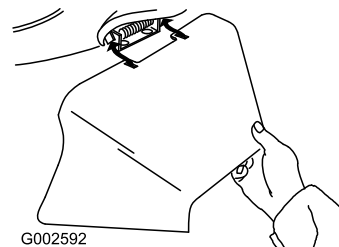

Figure 25
3. Install the side discharge chute and close the door onto the chute (Figure 25).